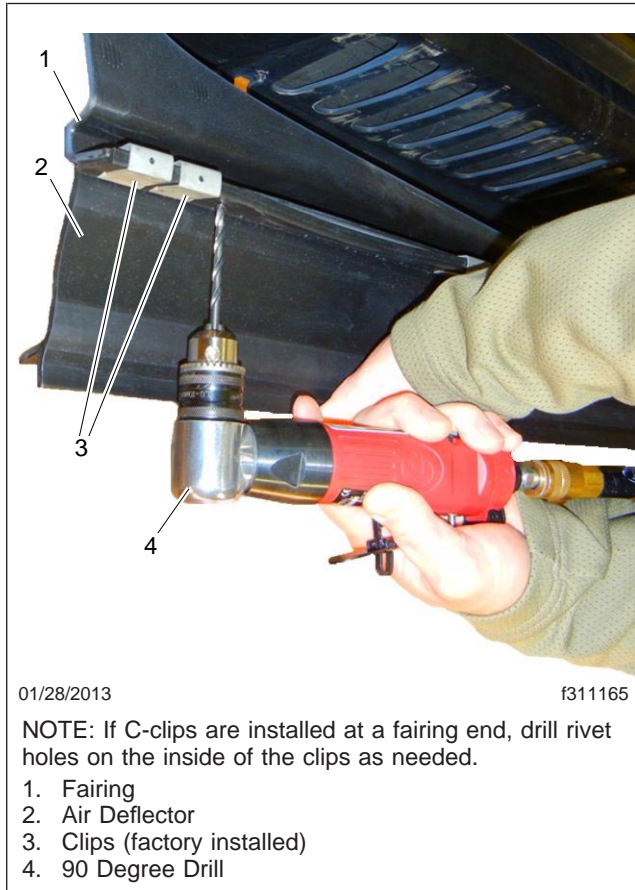

Fig. 3, Drilling a Rivet Hole
3. With the deflector and fairing held together and the deflector out of the way, use a 90 degree drill with a 13/64" bit to drill a hole through the center of the lip of the deflector and bottom of the fairing. See Fig. 3.